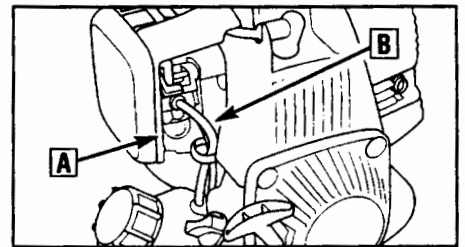

Figure 4: Primer bulb (A) and fuel-return tube (B).
Fuel Primer Bulb (Section 4, Figure 4)
3. To start a cold engine, or after refueling an engine that has run out of fuel, press the priming bulb (A, Figure 4) repeatedly until fuel can be seen in the clear-plastic fuel-return tube (B). To restart a warm engine, it is not necessary to press the priming bulb.